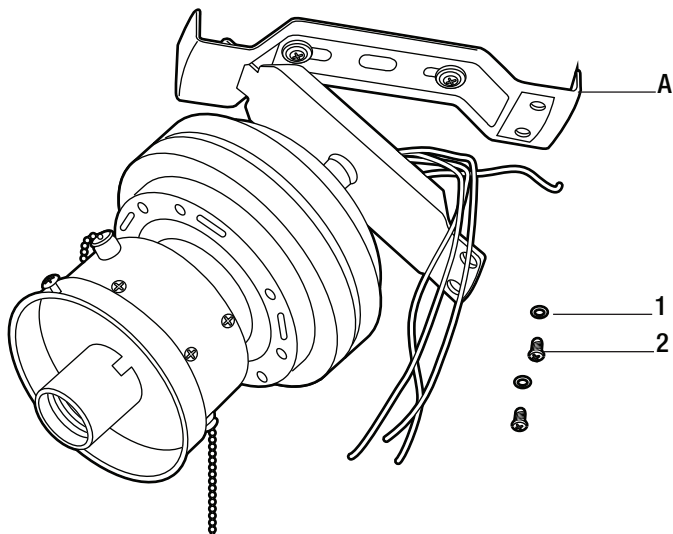

Figure 9
- Match the three holes at two ends of the supporting bar (A) with three screws of the hanger. Secure the fan assembly onto the supporting bar (A) using the preassembled screws (1) and washers (2) (Figure 9 and 10).